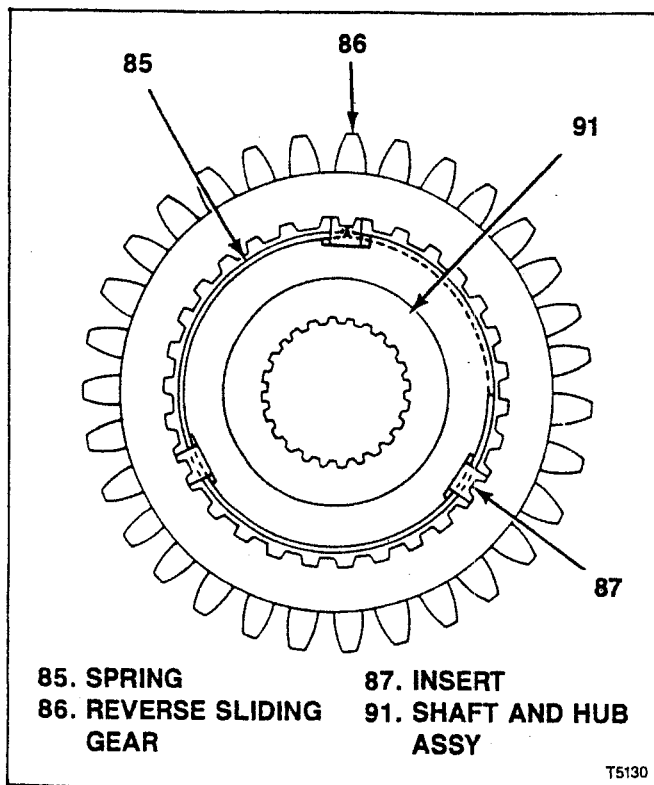

Figure 7-8. T5 NWC Reverse Sliding Gear Assembled
a. Depending on which is used, install pin (88), or spring (90) and ball (89) in shaft and hub assembly (91) and hold in place.
b. Be sure to assemble reverse sliding gear (86) and hub on shaft and hub assembly (91) aligning marks made at disassembly (see figure 7-8) so that clutch teeth and part faces are assembled exactly as they were originally.
c. Start reverse sliding gear (86) onto hub on shaft and hub assembly (91) to a position that will just permit installation of inserts (87). Install inserts (87) then engage clutch teeth fully.
d. Hook one end of one spring (85) under one of the inserts (87) and wrap around inside, under all three inserts. Hook other end of spring under insert (see figure 7-8).
e. At other side of assembly hook remaining spring (85) under opposite end and side of same insert (87) where step d was started but wrap around inside in opposite direction from step d, under all three plates. Hook other end of spring under insert (99) (see figure 7-8).
f. Position reverse sliding gear (86) and inserts (87) so that all inserts snap into neutral position.
g. At each end of shaft and hub assembly (91) install 1-2 blocking ring (84). Be sure to align blocking ring notches with inserts (87).